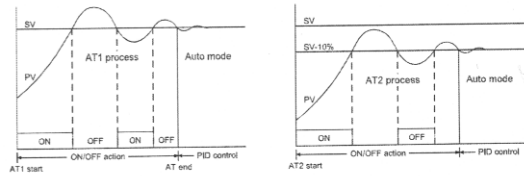

Figure 6. Auto-tuning Process
- AT1 – Auto-tuning mode 1. In this mode, the controller will tune the PID parameters automatically at SV. The process will oscillate around the SV during AT1 process (Figure 6). Use AT2 mode if overshooting beyond the normal process is likely to cause damage.
- AT2 – Auto-tuning mode 2. In this mode, the controller will tune the PID parameters automatically at (SV-10%). The process will oscillate around (SV-10%) during AT2 process (Figure 6).